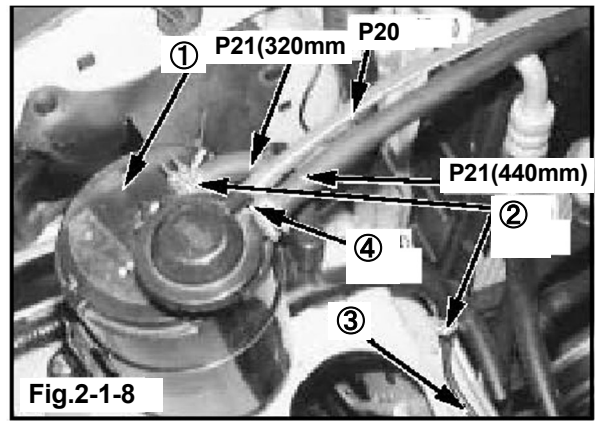

Fig.2-1-8
- 14) Connect the oil-resistant hose dia.6 (P21(A)) cut to 320mm in 2-1.(13) to ① and ③ and fix them with ②. (Fig.2-1-8)
- 17) Connect the oil-resistant hose dia.6 (P21(B)) cut to 440mm in 2-1.(13) to ① and fix it with ④. (Fig.2-1-8)
- Oil-resistant hose dia.6 (P21(B)) (Hose cut in 440mm length in 2-1. (13))